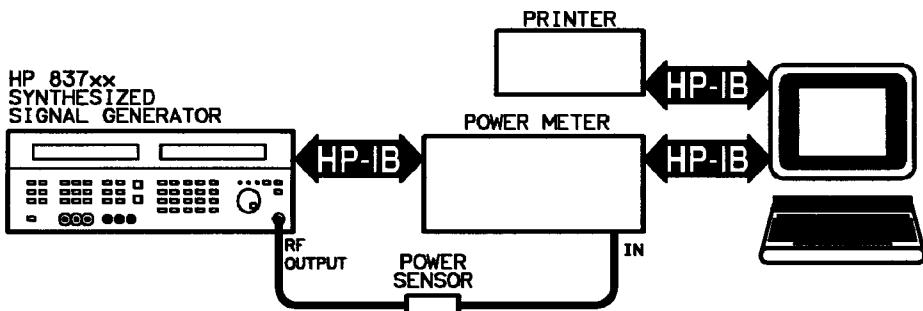

Figure 7-11. 0.01—1 GHz Frequency Calibration 2 Equipment Setup
2. Set up the equipment as shown in Figure 7-11.